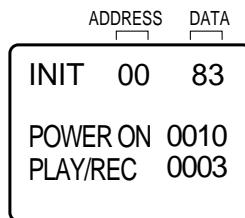

Fig. 1
2. While holding down VOLUME button on front cabinet, press key 6 on remote control simultaneously. ADDRESS and DATA should appear as FIG 1.